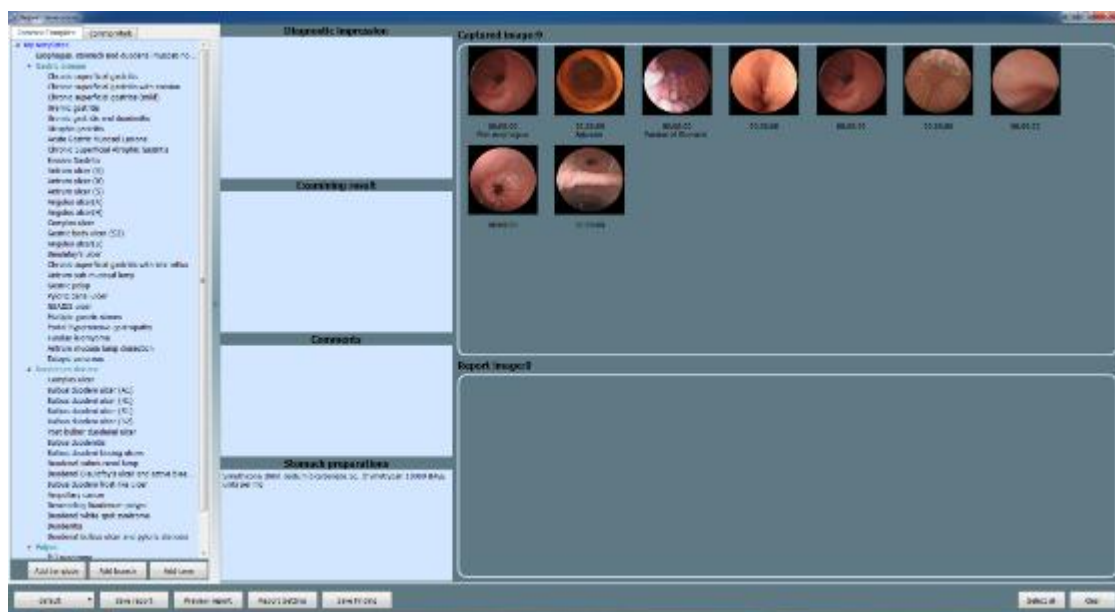

Figure 4-102 Report Generation Interface
1. On the Image Browsing interface as shown in Figure 4-12, click  to access the Report Generation interface as shown in Figure 4-102.
8. In the Report Generation interface as shown in Figure 4-102, click "Save Report" to access the Save Report interface as shown in Figure 4-109. The software saves a report in \*.pdf format by default, you may also choose to save in \*.doc format, click "Save" to save the report. After saving, you will be directed to Save Successfully interface as shown in Figure 4-110. Click "OK" to complete report saving. Click "Open" to open the report.